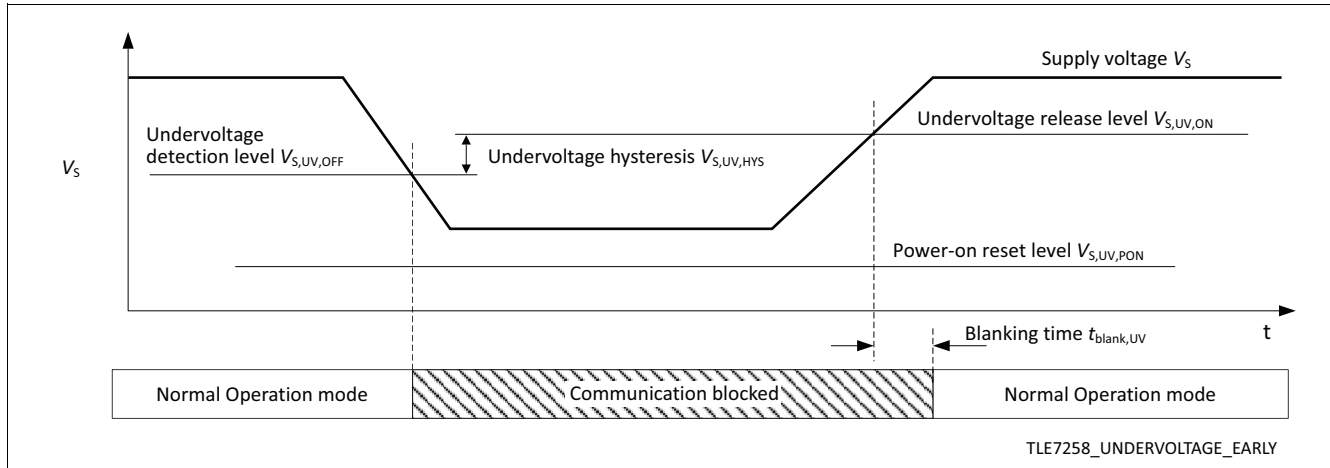

Figure 11 Early undervoltage detection
- In Normal Operation mode the TLE7258D blocks the communication between the LIN bus and the microcontroller when detecting undervoltage events. However, no mode change will occur. After V_S rises above the undervoltage release level $V_{S,UV,REL}$, the bus communication interface will be released when the signal on the TxD input goes "high". See Figure 11.